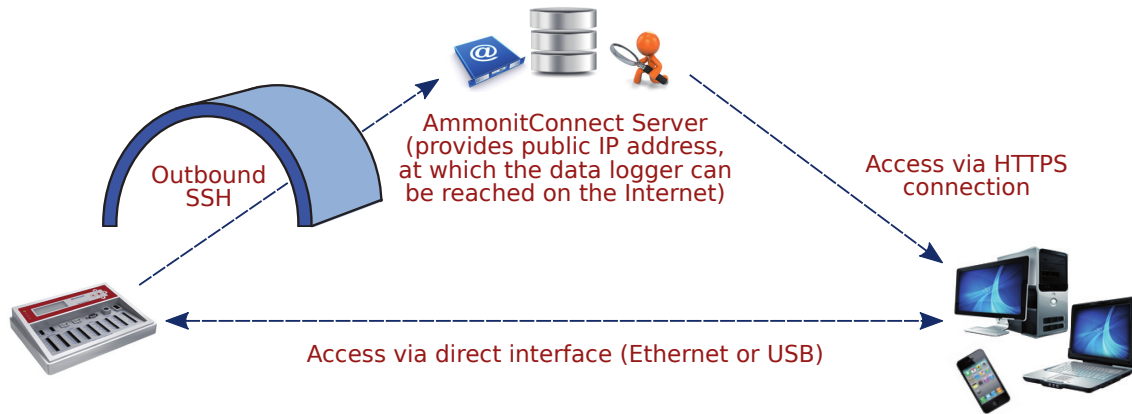

Figure 7.2: Communication between Meteo-40 plus and PC via AmmonitConnect
Meteo-40 plus can be connected to AmmonitConnect (see Figure 7.2) to obtain a unique subdomain. Thus the GSM modem can be equipped with a standard SIM card with dynamic IP address. AmmonitConnect manages the subdomains. Users access the Meteo-40 plus web interface (when online) by entering its subdomain, e.g. `https:// subdomain .connect.ammonit.com`. Additionally, the connection between data logger and server is encrypted and therefore cannot be accessed by unauthorized users.
**AmmonitConnect** Select AmmonitConnect (see Figure 7.2) to access the data logger's web interface via an AmmonitConnect domain link `https://Dnnnnnn.connect.ammonit.com`.